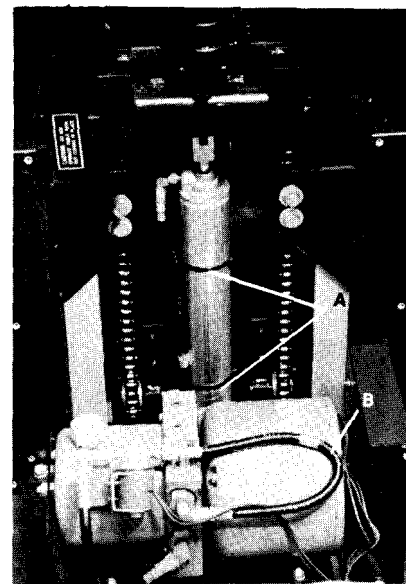

Fig. 29
- 2) Remove brace by removing (4) bolts with a 9/16" wrench.
- 3) Remove large nylon ties, Item A, fig. 29, from cylinder.
- 9) Install the large nylon tie, Item A, Fig. 29, on the cylinder.